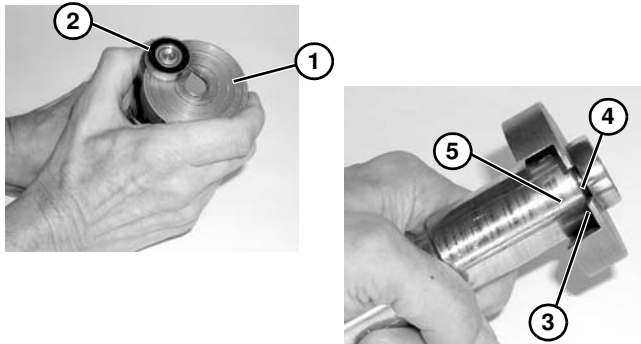

Figure 77
1. Place bearing removal tool part #456063 (**Figure 77, item 1**) below bearing (**Figure 77, item 2**) with lip (**Figure 77, item 3**) located in gap (**Figure 77, item 4**) between bearing and spindle hub (**Figure 77, item 5**) as shown.